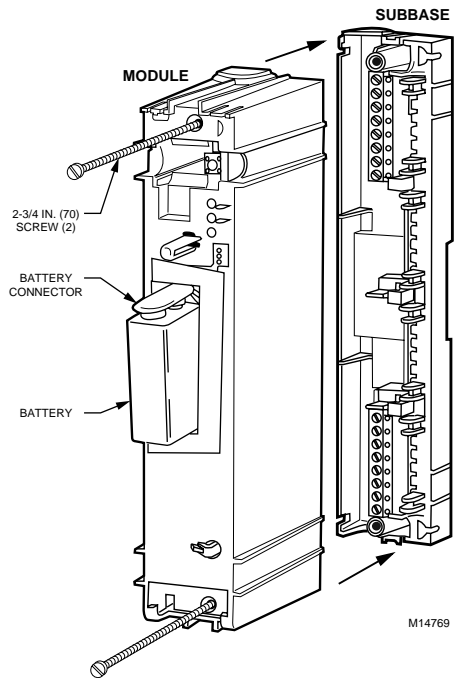

Fig. 10. Installing module onto subbase.
1. Align the subbase and the module housing and press together; see Fig. 10.